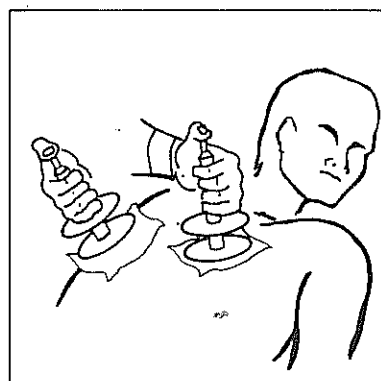

Fig. 5
If there is the possibility that manual cardiac massage must be carried out after defibrillation, it is not advisable to use electrode cream, since the operator's hands would slip from the patient's chest. In these cases, it has proved to be advantageous to place linen cloths soaked in a saline solution between the skin and the electrodes (Fig. 5).
- Apply the electrodes (Fig. 5) in such a way that as much of the impulse current as possible flows through the myocardium (the imaginary connecting line between the midpoints of the two electrodes should lie over the center of the heart)